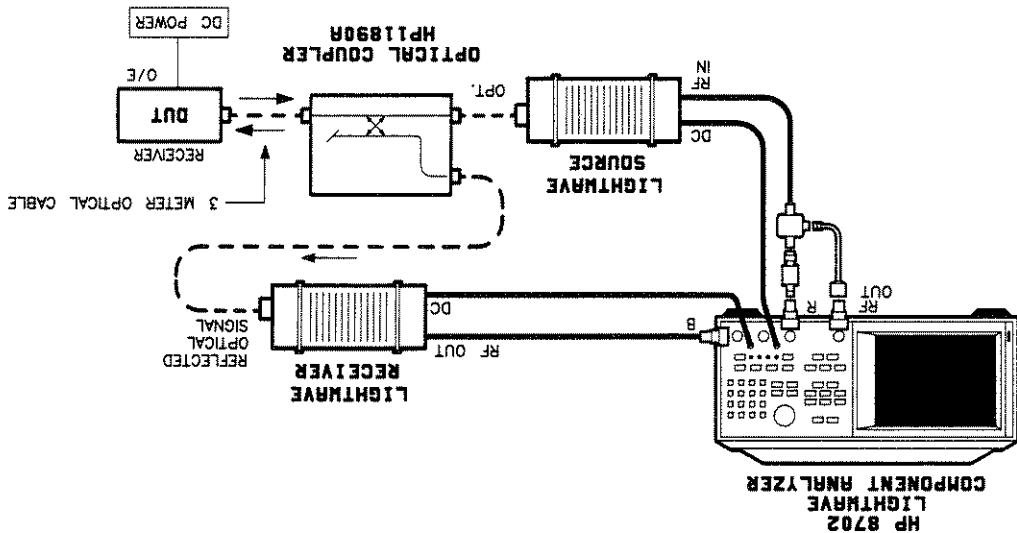

Figure 20. Receiver Optical Reflection Measurement Configuration
1. Connect the system as shown in Figure 20, but do not connect the DUT yet.